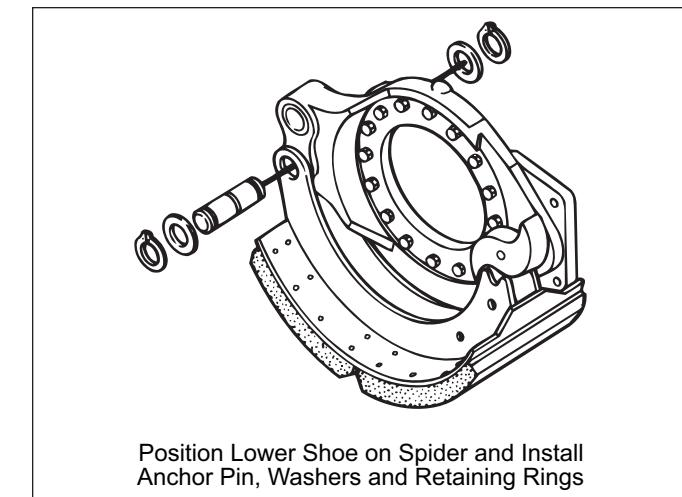

Figure 68. Lower Shoe and Anchor Pin Installation
5. Place the lower shoe in mounting position on spider, and install lower anchor pin, washers and retaining rings. Refer to Figure 68.